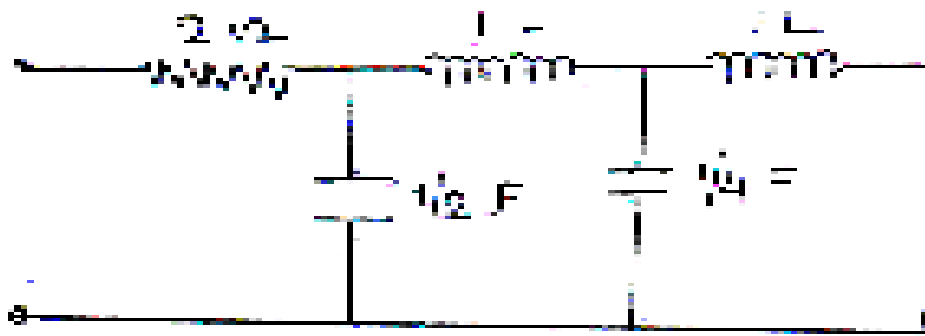

Fig. 4
- b) Find the driving point impedance of the circuit shown in Fig. 4. 8